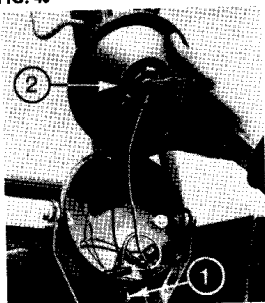

FIG. 42
1. Fig. 42. Slacken the screw (1), then hinge the lens and rim upwards until they can be removed from the light body.
2. Turn the bulb retainer (2) anticlockwise and remove the bulb retainer and then the bulb.